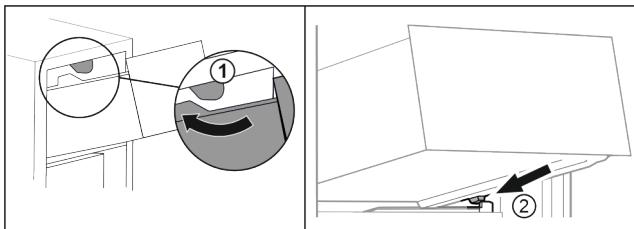

Fig. 111
- Guide drawer around the upper stoppers. Fig. 111 (1)
- Place drawer at an angle behind the lower stoppers onto moulded rib. Fig. 111 (2)